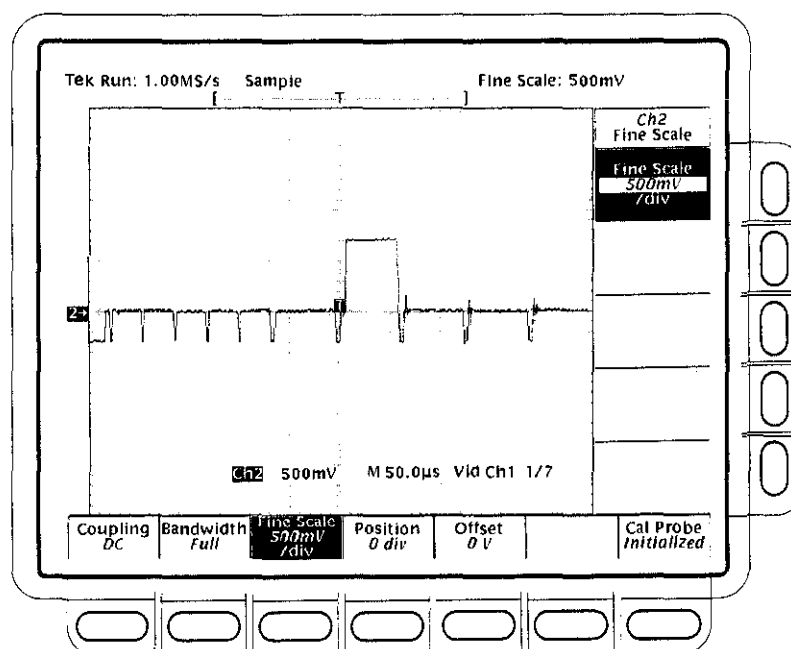

Figure 1-33: 60 Hz Rejection Test Result – TDS 684A Shown
- CONFIRM that the **TRIG'D** LED stays lit and that the waveform on screen is stable. In other words, be sure the waveform does not move horizontally or vertically. Also, confirm that the waveform on the screen has one positive pulse and a number of negative pulses. See Figure 1-33.